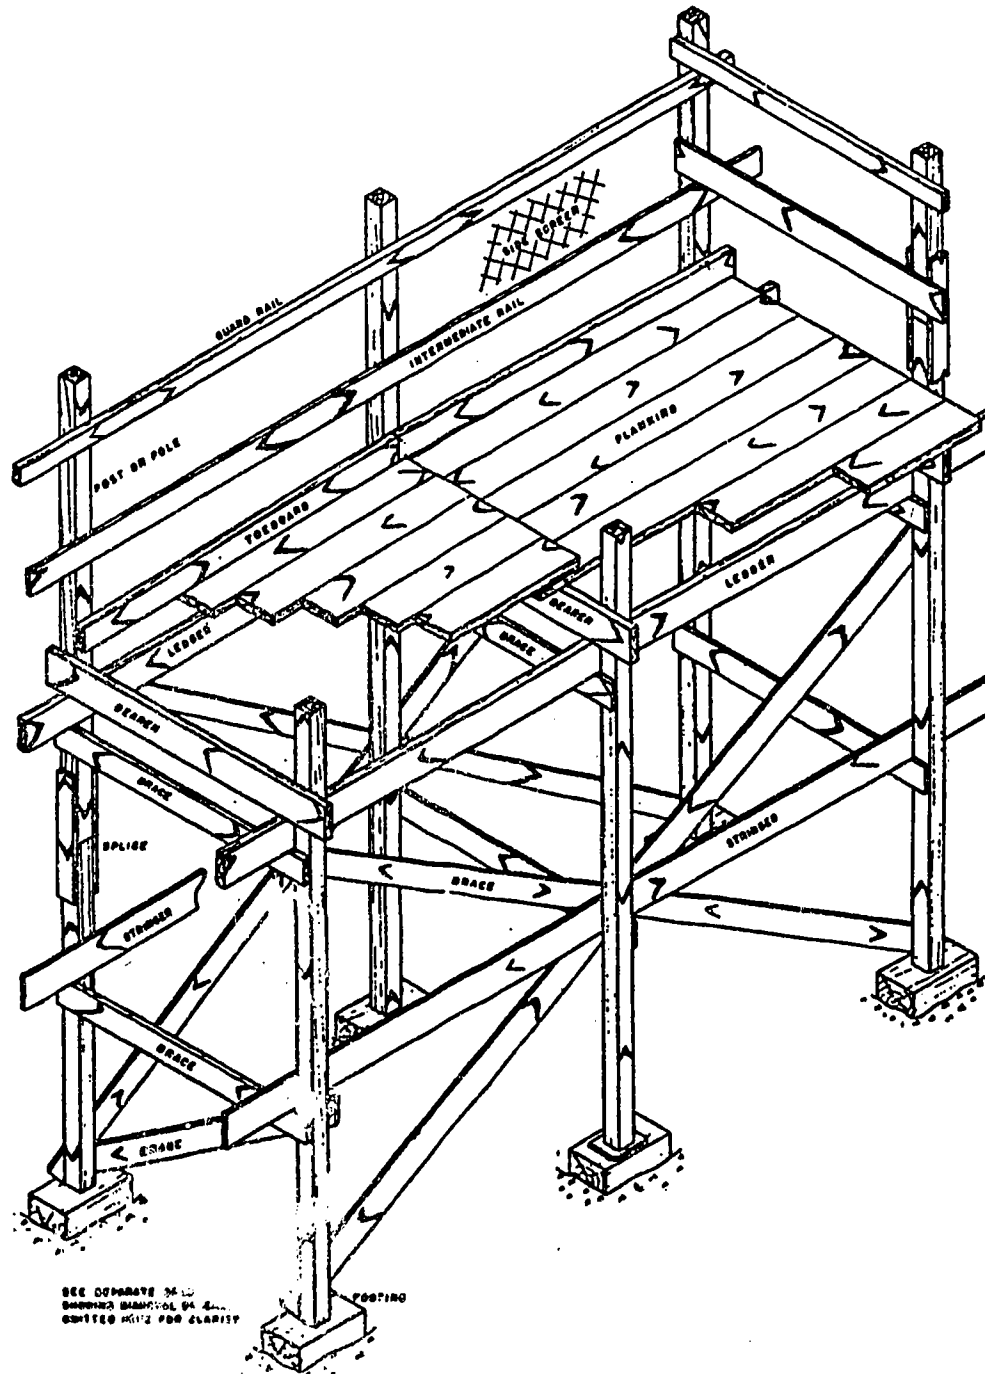

Figure 14. Double Pole or Independent Scaffolding.
b. Scaffolding (See Figures 14 thru 21 for types of scaffolding):
(1) Inspect all parts before use. Re-